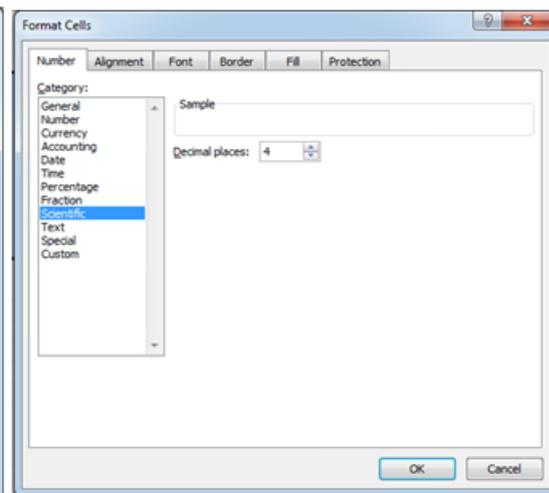

Figure 6-1-6 Scientific Notation
2. Select the resistance field, and set its cell properties to: scientific notation, 4 decimal places, as shown in Figure 6-1-6.